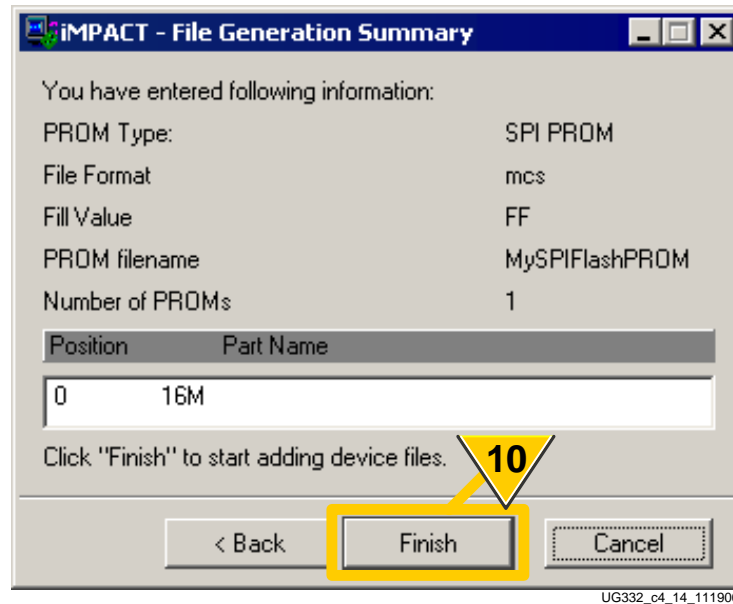

Figure 4-13: Review PROM Formatting Settings
10. As shown in Figure 4-13, review that the settings are correct to format the SPI PROM. Click **Finish** to confirm the settings or **Back** to change the settings.